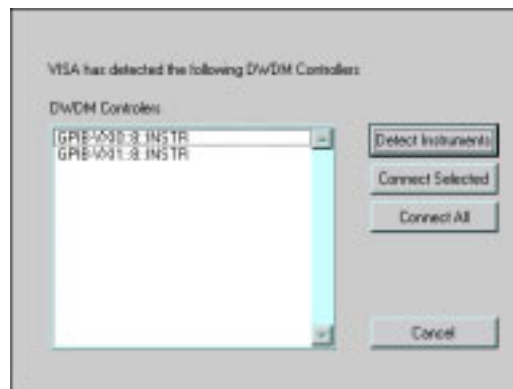

Figure 2-5. Instrument Found
2. Click on the **Detect Instrument** button to detect all VISA configured instruments connected to the external controller as shown in Figure 2-5. (In this case VISA has detected 2 DWDIM Controllers, GPIB-VXI0::8::INSTR and GPIB-VXI1::8::INSTR.)